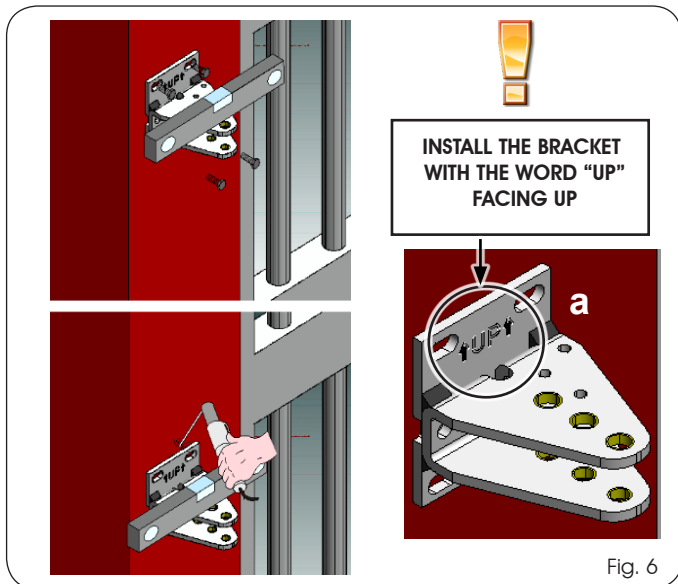

Fig. 6
1. Check the perfect level then weld the rear fitting to the pillar or fix it by means of suitable screws, dowels / threaded inserts. Observe the dimensions stated in Tab.1 (never cut the rear fitting; moreover it must be installed with the word "UP" facing up as shown in Figure 6 Ref. a).